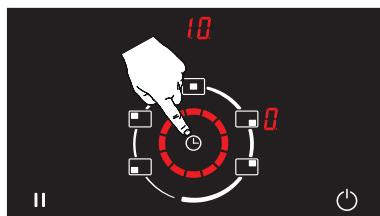

Figure 11
3. You may turn the cooking area selected off by setting a timer. When the set time has expired, the cooking area set automatically switches off with a beep. (See Fig. 11)